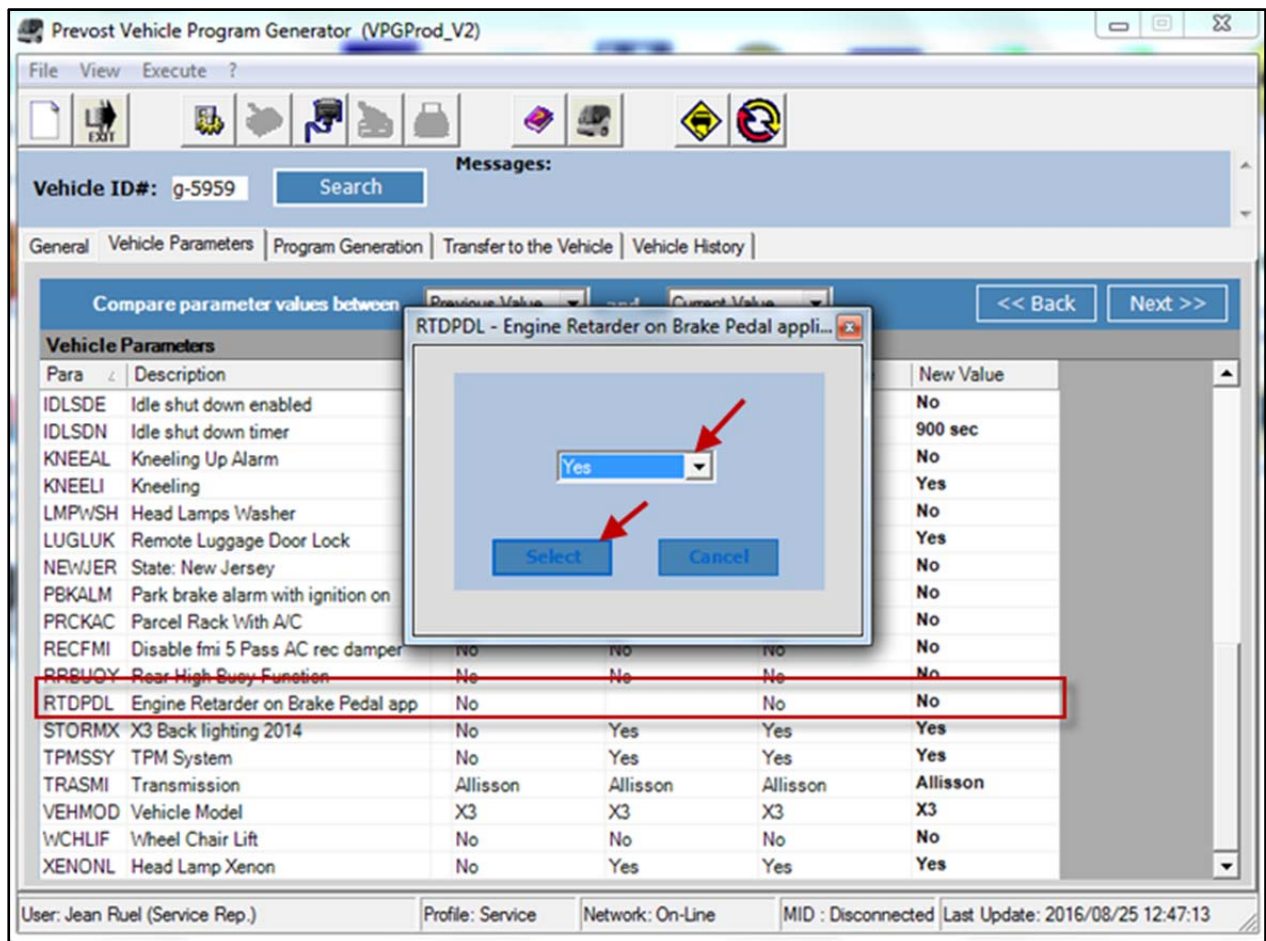

FIGURE 10
2. Change RTDPDL parameter value. Initial value is **NO**, change this value for **YES** using the drop-down list, then click on SELECT (FIGURE 10).